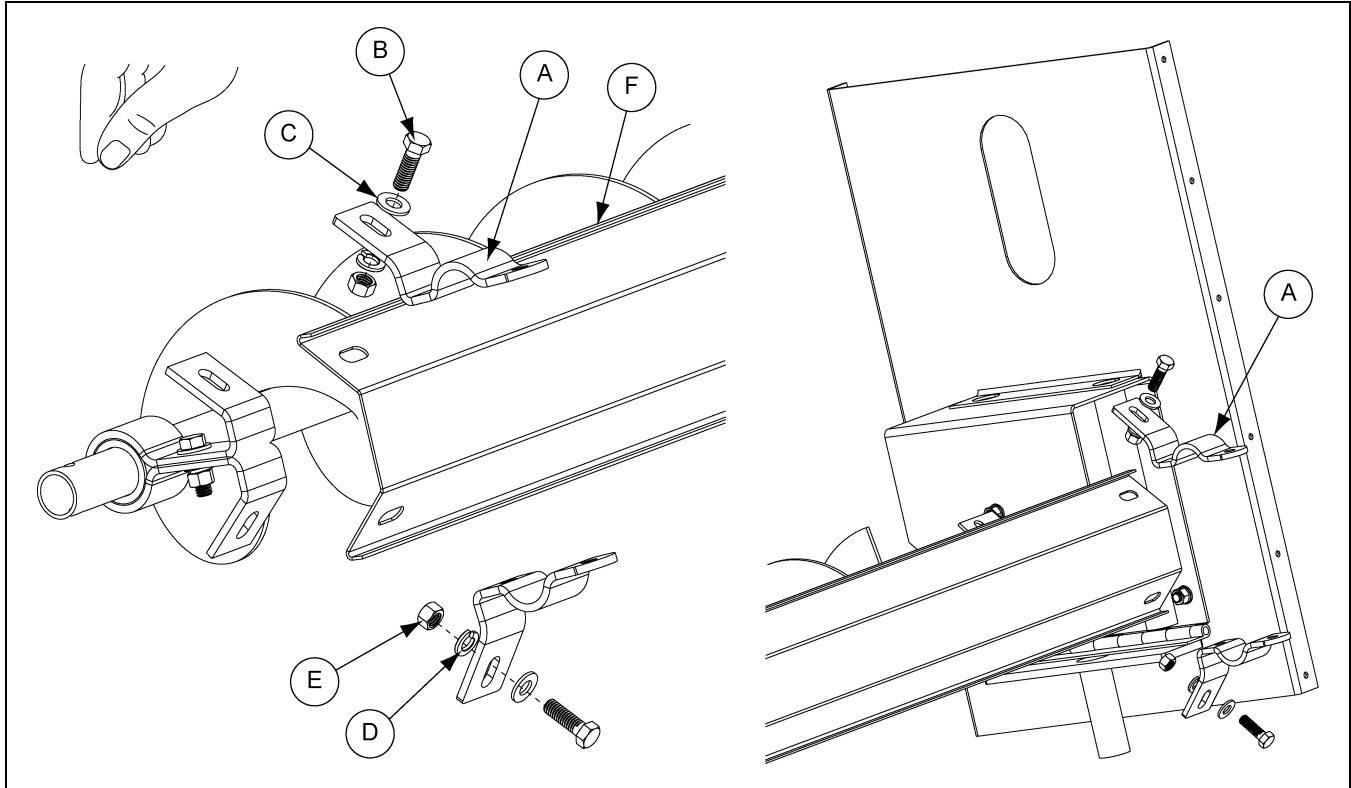

Figure 4K
Step 11: Fit back shield. (See Figure 4K.)